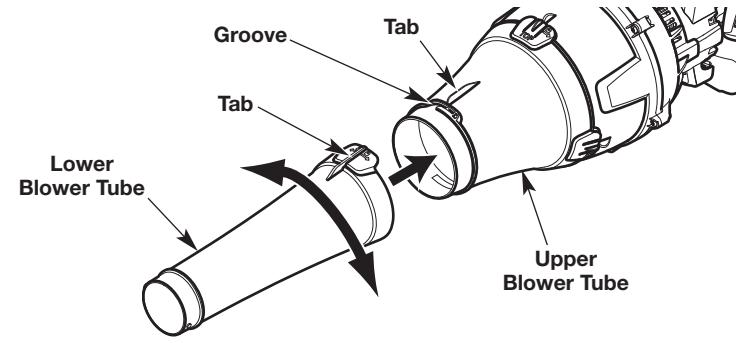

Fig. 4
1. Align the tab on the lower blower tube with the groove on the upper blower tube (Fig. 4).
2. Push the lower blower tube onto the upper blower tube (Fig. 4).
3. While holding the handle firmly, turn the lower blower tube clockwise until it locks into place (Fig. 4). The tab on the lower blower tube should align with the tab on the upper blower tube.
2. While holding the handle firmly, turn the lower blower tube counterclockwise until it unlocks from the upper blower tube (Fig. 4).